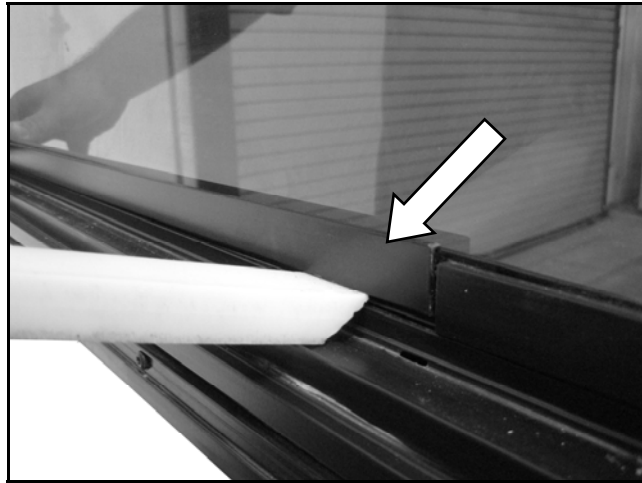

FIGURE 3-6. REMOVE CLIPS (STANDARD FRAME)
- 1) Refer to **Figure 3-6**. Remove clips to release window glazing.
- 3) Refer to **Figure 3-6**. Place tapered end of glazing stick at the intersection (angle side to glazing) of the frame and the clip and tapping with the mallet until a gap appears.